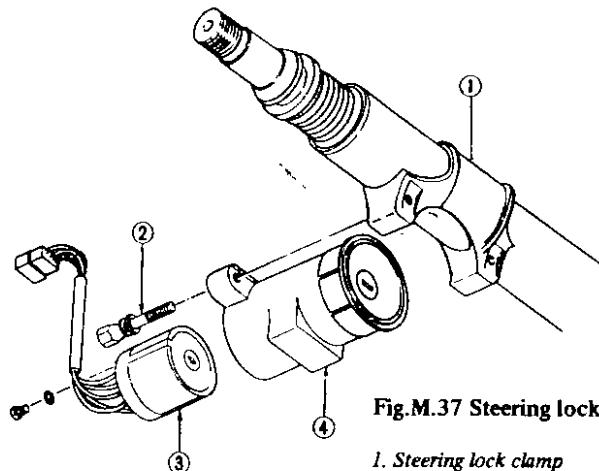

Fig. M.37 Steering lock installation.
The steering lock is built-in to the ignition switch. When the key is turned to the "LOCK" position and then removed, the steering system is automatically locked by the steering lock spindle which engages in a notch in the collar on the steering shaft. (See. Fig.M.37.). The heads of the screws are sheared off on installation so that the steering lock system cannot be tampered with. If the steering lock is to be replaced it will be necessary to remove the two securing screws (8), and then drill out the self shearing screws (7). When installing a new steering lock, tighten the new self shearing screws until the heads shear.